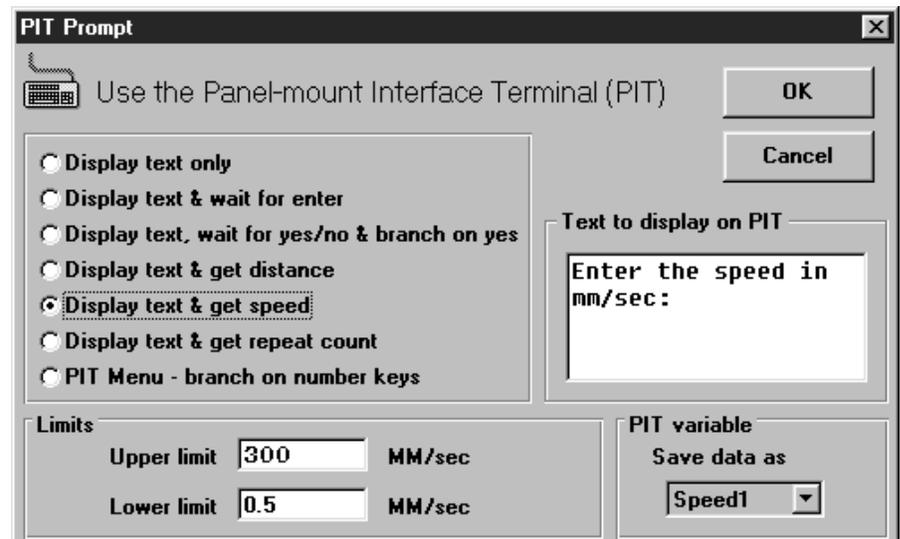

Figure 37 - PROMPT USER FOR SPEED
**TO GET A SPEED FROM THE USER (see Figure 37)**